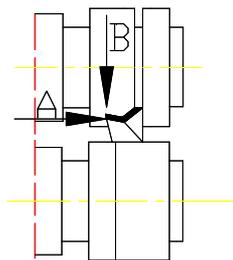

Figure 3-19
The inner bending process of the angle steel is similar to the outer bending of the angle steel flange workpiece. As shown in Figure 3-19, two directions of distortion will occur during the bending process, so the large guide roller (1) and the small guide roller
(2) are used to provide the force, the small guide roller (2) is a torsion roller for adjustment.